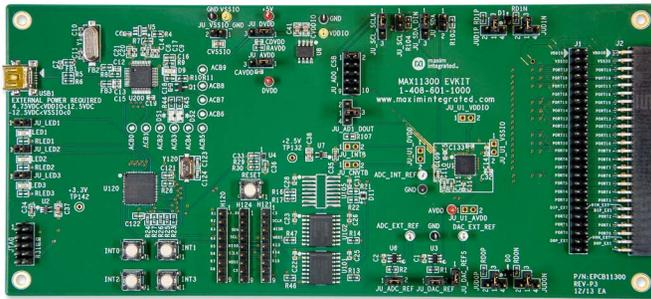

Figure 5. The MAX11300 EV kit board.
To further speed the uptake, there are multiple hardware and support options for the device. These include the MAX11300 evaluation (EV) kit which provides a proven platform to evaluate the MAX11300 and includes Windows XP®, Windows Vista®, Windows® 7-, and Windows 8.0-/8.1-compatible GUI for exercising the features of the IC, Figure 5.